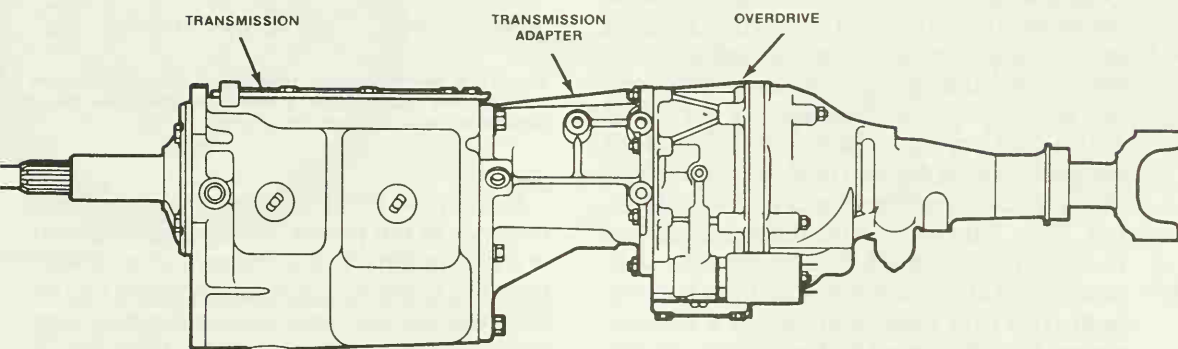

Figure 6-3. A planetary overdrive unit is mounted on the rear of the transmission in a separate housing. (American Motors Corporation)
Another way of achieving an overdrive is to use a planetary gear system in a separate housing mounted on the rear of the transmission as shown in Figure 6-3. A simple planetary gear system is made from four components: (1) a **sun gear**, (2) a set of **planets**, (3) a carrier, and (4) a **ring gear**. The relation-